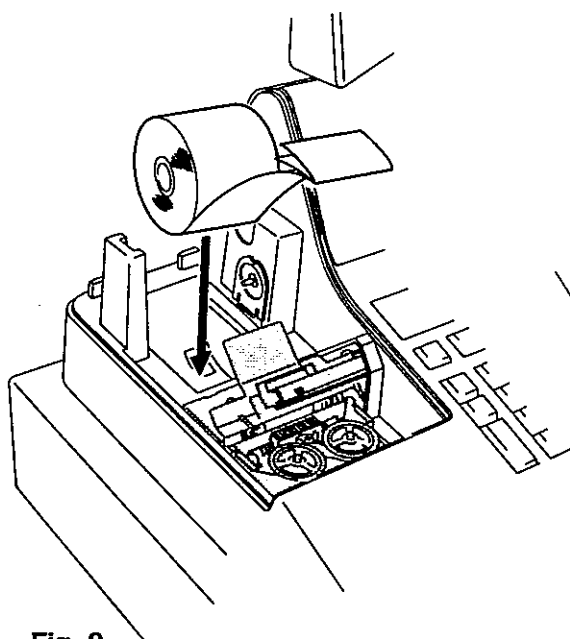

Fig. 2
- 2) Place the paper roll into the paper pocket. (Fig. 2)